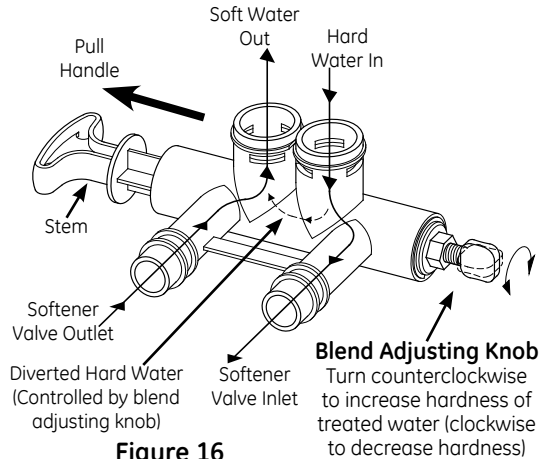

Figure 16
The blend adjusting knob (Figure 16) gives the ability to finely adjust hardness of the treated water leaving the water softener. If slightly harder water is desired than is normally delivered by the water softener, the blend adjusting knob can divert a small stream of hard water and blend it with the soft water entering the home. The amount of water diverted is controlled by turning a blend adjusting knob on the end cap of the valve stem.
1. Hold bypass handle to keep the valve stem from rotating (see figure 16). Loosen hex nut on blend adjusting knob by turning the hex nut counterclockwise.
2. **TO INCREASE HARDNESS:** With the bypass in the service position (see figure 16) hold the handle to keep the valve stem from rotating and turn the blend adjusting knob counterclockwise up to 2 turns from the closed position. It is recommended that adjustments be made in quarter turn increments over several weeks until the desired hardness is achieved. **NOTE:** Once an adjustment is made to the blend valve knob the change in water hardness at the homes faucets or shower heads may take several days to be noticed. This delay is due to the large amounts of already conditioned water in the pipes and water heater that must be exchanged before a change in hardness can be noticed. Have the water tested to determine the actual water hardness.
3. **TO DECREASE HARDNESS:** With the bypass in the service position (see figure 16) hold the handle to keep the valve stem from rotating and turn the blend adjusting knob clockwise. When the knob will not turn anymore, hard water is no longer being blended into the soft water.
4. Once the desired hardness is achieved tighten the hex nut (see figure 16) clockwise until it comes in contact with the bypass stem.